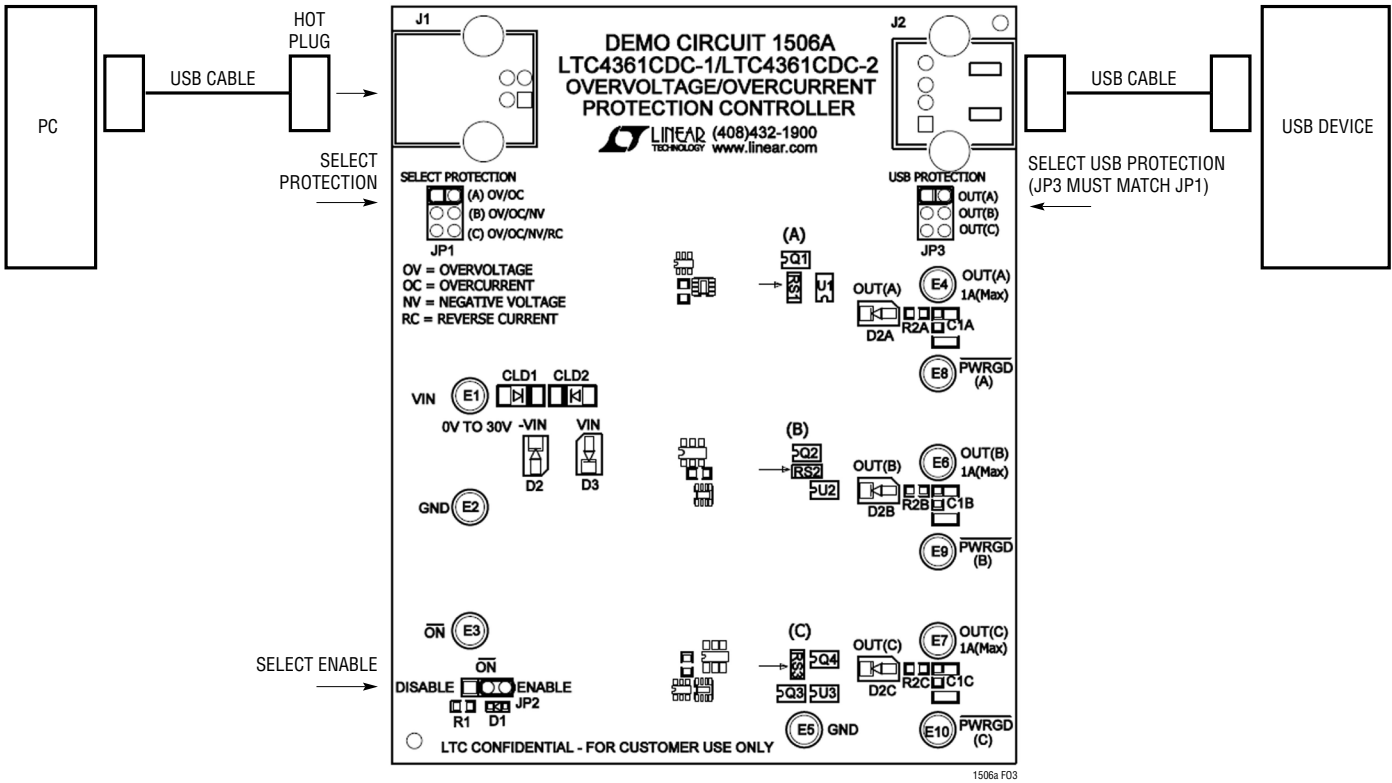

Figure 3. DC1506A USB Protection Setup
Demonstration circuit description 1506A is easy to set up to evaluate the performance of the LTC4361. Refer to Figure 2 and Figure 3 for proper measurement equipment setup and follow the procedure below.
4. For USB protection, connect a USB cable from J2 to the USB device (Figure 3). Select the protection type at JP1 and match JP3 to JP1. Connect a second USB cable from a computer to J1.